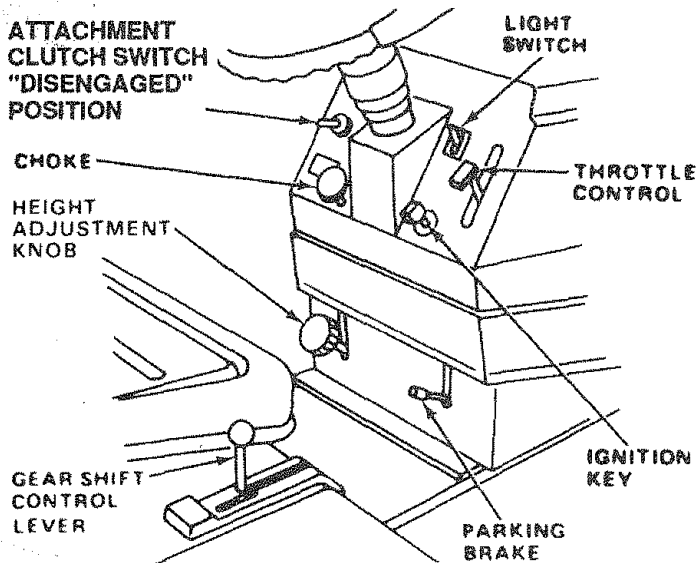

FIGURE 15
- Move gear shift lever to "NEUTRAL" position (Fig. 15).
- Place attachment clutch switch in "DISENGAGED" position (Fig. 15).
- Move throttle control to "S" (slow) position (Fig. 15).
- Turn ignition key to "OFF" position (Fig. 15).
- Place attachment clutch switch in "disengaged" position (Fig. 15).
- Place gear shift lever in "NEUTRAL" position (Fig. 15).
- Pull choke out (Fig. 15).
- Move throttle control to middle position (Fig. 15).
- a. Select desired height of cut position using height adjustment knob (Fig. 15).